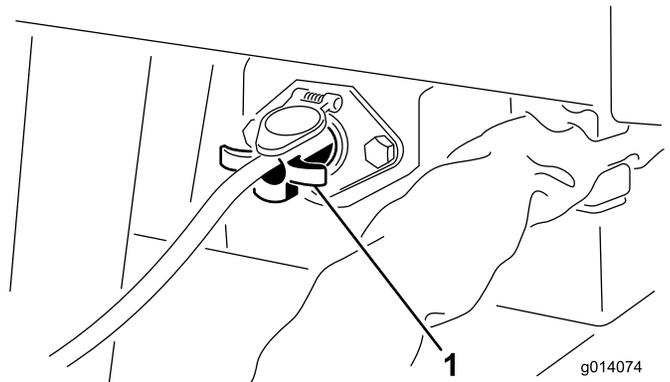

Figure 9
4. On SH models plug the on/off pendant switch (4 prong end) into the socket at the front left corner of the machine (Figure 9).